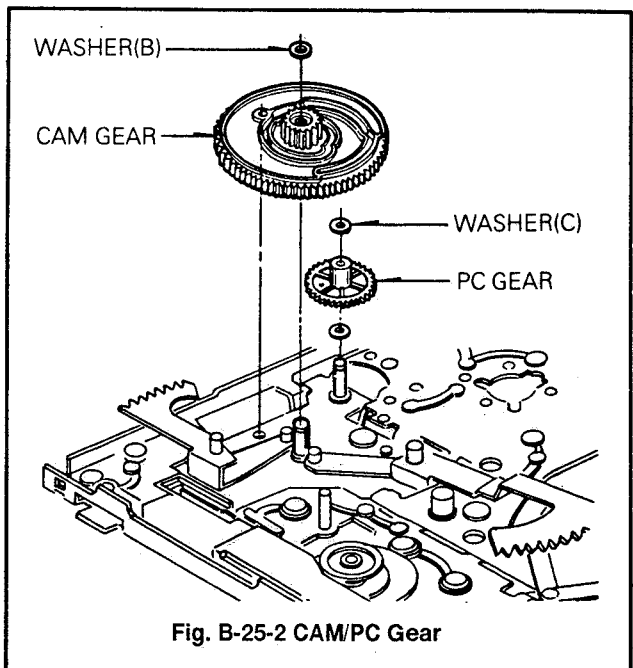

Fig. B-25-2 CAM/PC Gear
25. Cam Gear/Rack Gear T/Rack Gear FL(Fig. B-25-2)
- 2) Remove the washer(B), and then remove the Cam Gear (Fig. B-25-2).